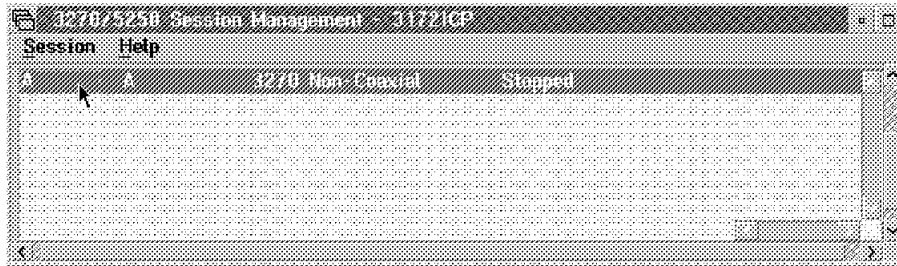

Figure 70. Scenario 4 Verification. Using Communications Manager/2 to establish a 3270 emulation (TSO) session on the MVS host.
- Step 5. Select **Start** option from the pull-down menu as shown in Figure 70.